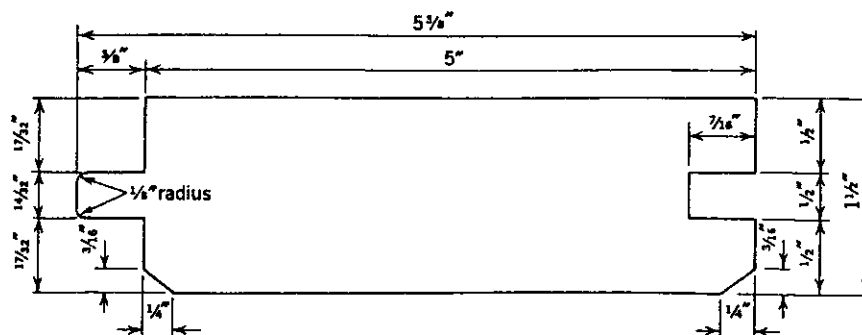

Figure 1. 2 x Nominal V-Joint Pattern. (See regional grading rules listed in paragraph 1.3 for dimensions for individual species.)
- 3.1 TWO INCH DECKING. The standard size is 2 x 6 inch and 2 x 8 inch, nominal, dressed at the moisture content specified herein to the actual size and V-grooved pattern shown in Figure 1. Other thicknesses and widths are also available. See regional grading rules listed in paragraph 1.3 for dimensions for individual species.